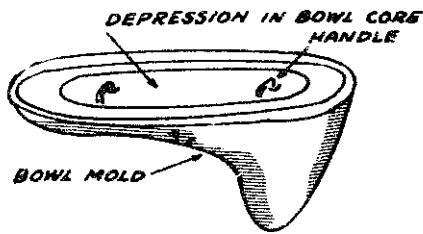

FIGURE 3 BOWL CORE HANDLES
2. A concrete bowl core for shaping the inside of the bowl (see Figure 3).
After the bowl core has become firm enough, scoop a depression into the surface to install **two** steel hooks made from the reinforcing rod. They should be about 22.5cm (9") apart, and should not protrude above the surface of the concrete (see Figure 3).